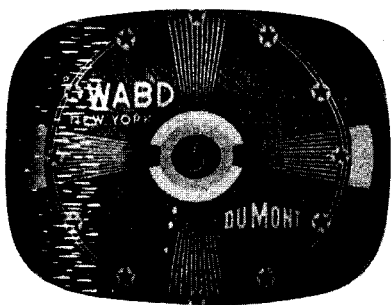

Fig. 47 — Dumont
**Eliminating parasitic oscillations in the filament supply (see Fig. 47).**